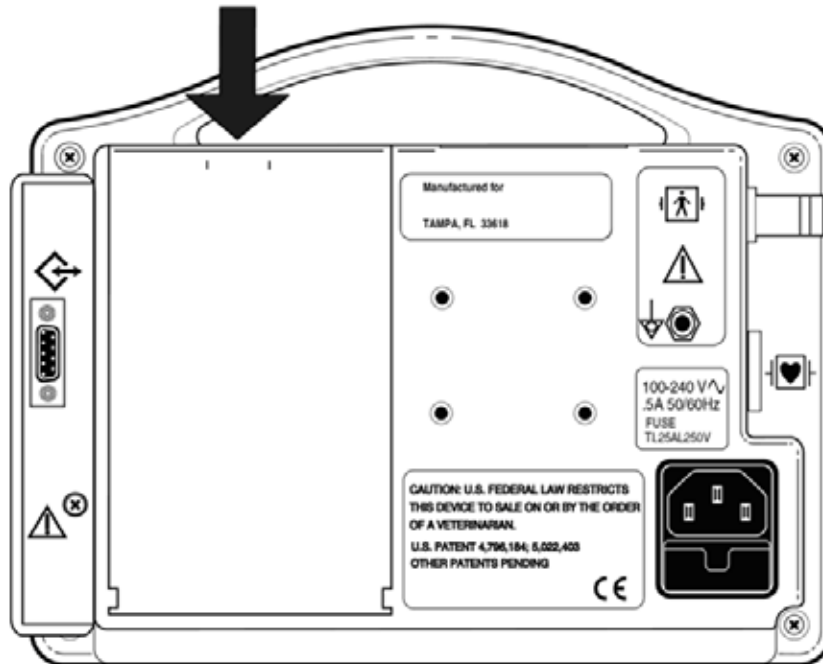

Figure 11: Removing the Battery
- 3) Carefully remove the battery pack from the rear panel of the monitor. Refer to Figure 11.